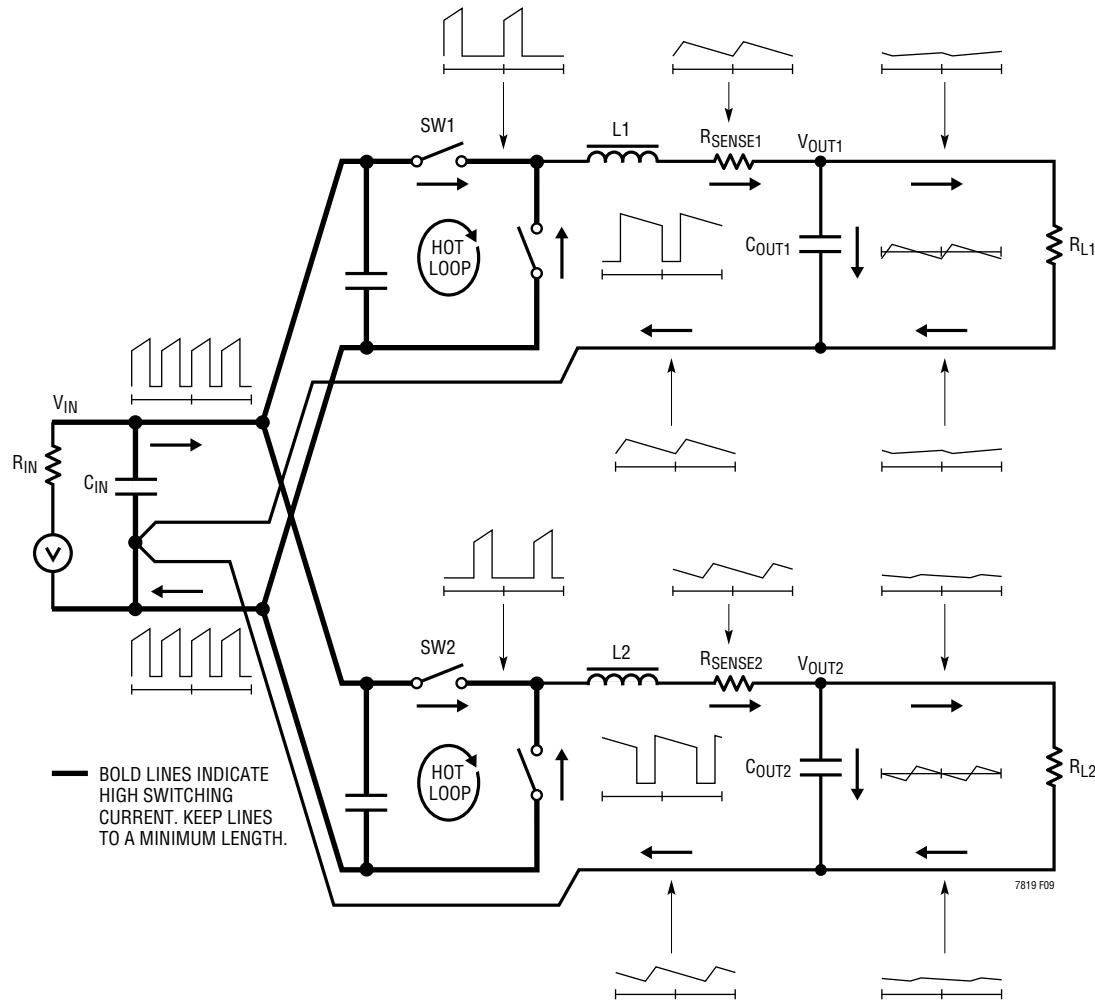

Figure 8. Branch Current Waveforms for Bucks
When laying out the printed circuit board, the following checklist should be used to ensure proper operation of the IC. Figure 8 illustrates the current waveforms present in the various branches of the synchronous regulators operating in the continuous mode. Check the following in your layout:
2. Are the signal and power grounds kept separate? The combined IC ground pin and the ground return of  $C_{INTVCC}$  must return to the combined  $C_{OUT}$  (-) terminals. The area of the “hot loop” formed by the top N-channel MOSFET, bottom N-channel MOSFET and the high-frequency (ceramic) input capacitors, as shown in Figure 8, should be minimized with short leads, planar connections, and multiple paralleled vias where needed. The output capacitor (-) terminals should be connected as close as possible to the (-) terminals of the input capacitor.